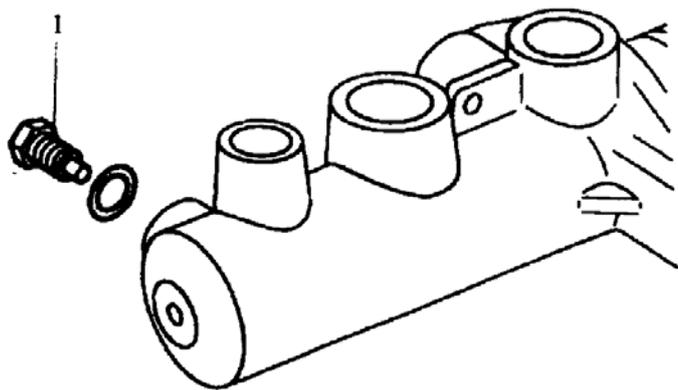

FIG.16-59 1.Stopper bolt
(4) Remove piston stopper bolt. Then remove secondary piston assembly. (FIG.16-59)